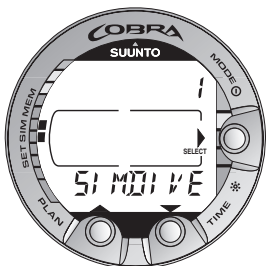

Fig. 4.17. Dive Simulator mode. [1 SIMDIVE].
- The DIVE SIMULATOR (Fig. 4.17.)
To enter the Dive Simulator mode select MODE- 2 SIMUL- 1 SIMDIVE (Fig. 4.17. and 4.18.).